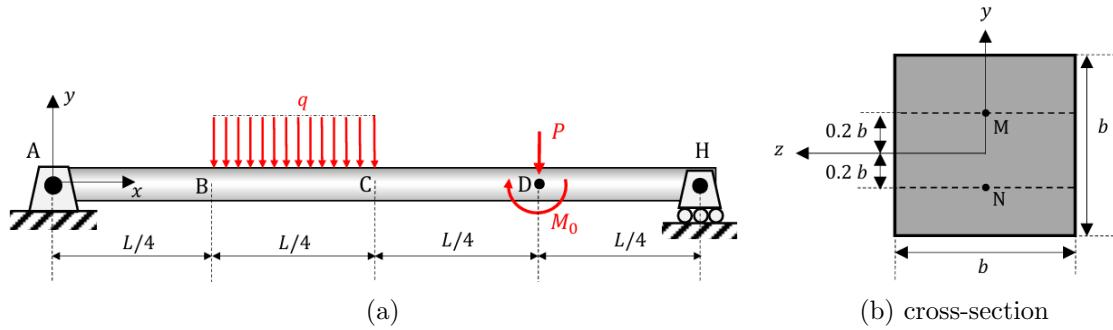

Figure 6
6. A simply supported beam AH is subjected to a constant distributed load q over the section BC, a moment M_0 and a concentrated force P at D. The cross section of the beam is shown below (See Fig. 6). The parameters are following: L=8 ft., $q=10$ lb/ft, $M_0 = 40$ lb-ft, $P=10$ lb, $b= 2$ in.